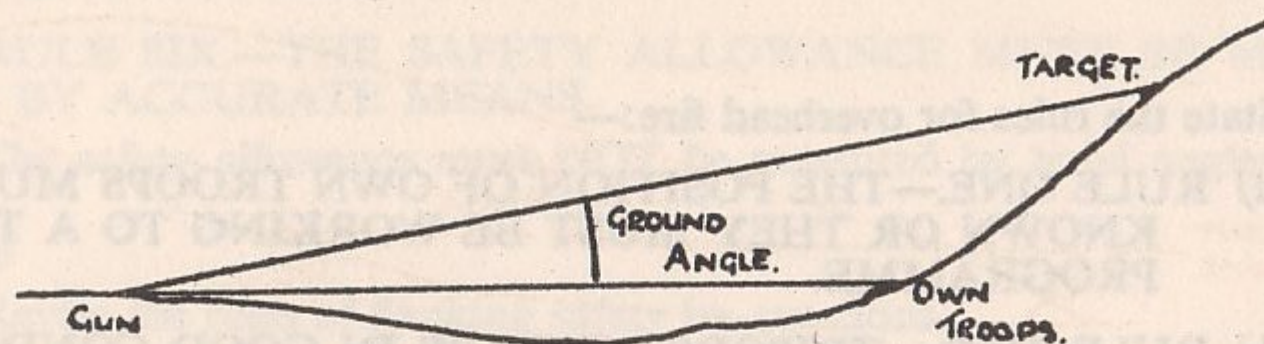

FIG 30
- (b) *The ground angle.*—The ground angle is the angle between the line of sight to own troops and the line of sight to the target (see Fig 30 below).